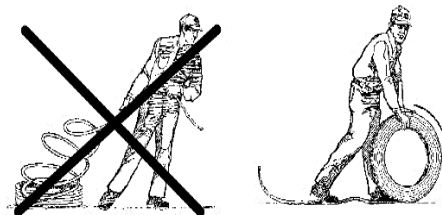

Figure 5.0.6.3.2
- Make sure the rope is twist- and buckling-free. Before winding the wire rope over the drum (1), remove all oil and grease residues from the drum. From below, push the wire rope (2) under the rope clamps (3) and Fasteners (4) until the rope end protrudes by approx. 3cm.
- Tautly wind the rope around the drum (1) by approx. 6–8 turns. Make sure the rope is twist-free.
- Spread the rope guide (5) and lead it over the drum (1) in such a way that its threaded segments engage in the grooves of the rope drum and that the ending rope line (2) exits through the guide slit.
- Suspend tension parts (6) and adjust them by turning the eye bolt until the rope guide ring is fitting tight.
- Twist the rope guide ring (5) until the guide edge engages in drum casing. Then fasten the rope guide ring (6).
- Figure 5.0.6.3.2**